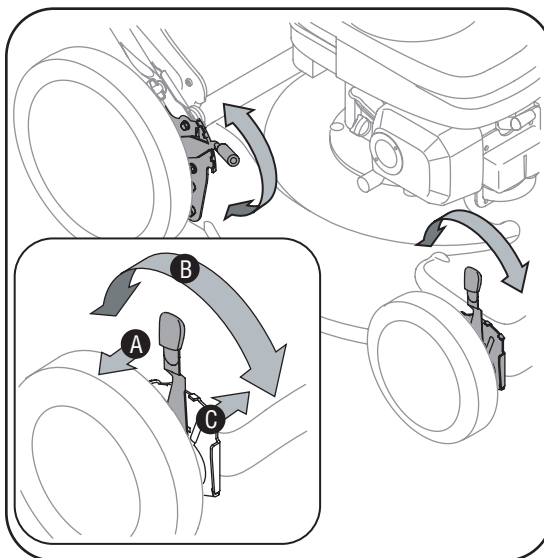

Figure 3-5
- b. Move it to any of the nine positions for desired cutting height. See Figure 3-5.